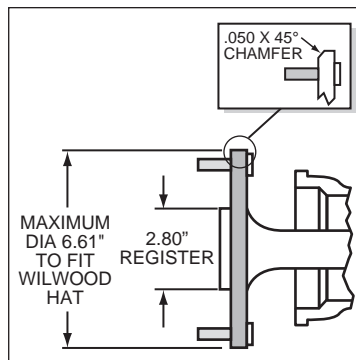

Figure 2. Axle Flange Maximum Dimension
• Axle center register diameter is 2.80", Figure 2.
• Maximum axle flange diameter must be no larger than 6.61" w/.050" x 45° chamfer, Figure 2.